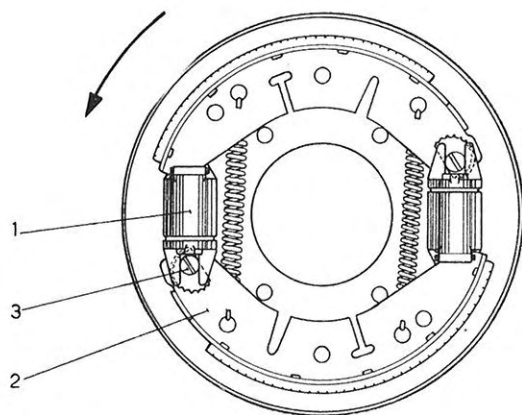

Fig. 2. Front wheel brake
linder piston, and the fluid in the brake system transmits the pressure to the wheel cylinders. Each front wheel brake has two cylinders, see Fig. 2, each one acting on one brake shoe. When braking, the cylinder plungers move in the direction of the wheel rotation (car moving forward) and press the brake shoes against the brake drums.
3. Remove the hub cap, screw out one wheel bolt and turn the wheel until the bolt hole is opposite one of the adjusting screws. The location of the adjusting device is shown in Figs. 2 and 3. Note that each front wheel brake has two adjusting devices, whereas the rear wheel brakes have only one.